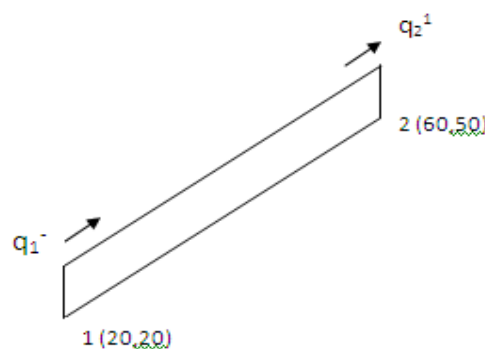

Fig.1
3. (a) Consider the truss element as given below. The x, y coordinates of the two nodes are indicated in fig.1, if $q = [1.8, 1.3, 2.4, 4.6]^T \times 10^{-2}$ inches, determine: